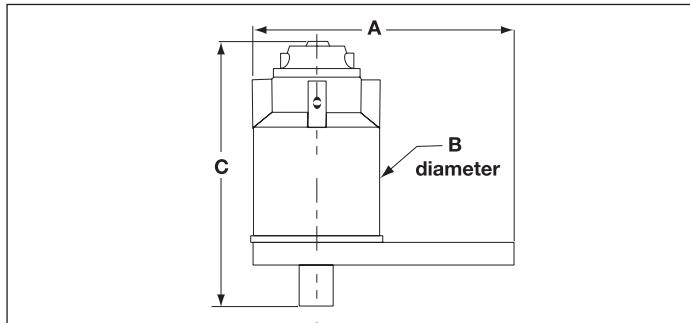

**Figure 1, Changing the Reaction Plate**
**WARNING:** Do not hold torque multiplier reaction bar or reaction plate (Fig. 1, Item 1) while applying torque. Normal multiplier deflection could create pinch a point.
**WARNING:** Prior to EACH use, check reaction plate/bar holding screws to insure they are tight (Fig. 1, Item 2).
**WARNING:** Prior to EACH use, inspect output square drive (Fig. 1, Item 4) for visible sign of fatigue or fracture. Replace if necessary.
A controlled-shear output square drive (Fig. 1 Item 4) protects internal components in the event maximum output capacity is exceeded. This overload-protection feature causes the drive to fracture when output exceeds from 103% to 110% of rated output capacity. One replacement drive is included with the torque multiplier (E391, E392, E393, E492, E493, E494, E495). (Order additional replacements from your Enerpac distributor.)
- Mount the proper size female square drive socket onto the torque multiplier's output square drive (Fig. 1, Item 4). Position socket and torque multiplier on the fastener to be tightened.